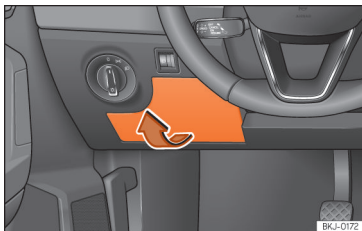

Fig. 49 On the driver's side dashboard: fuse box cover.
- Open: remove the fuse box cover in the direction indicated »» Fig. 49.